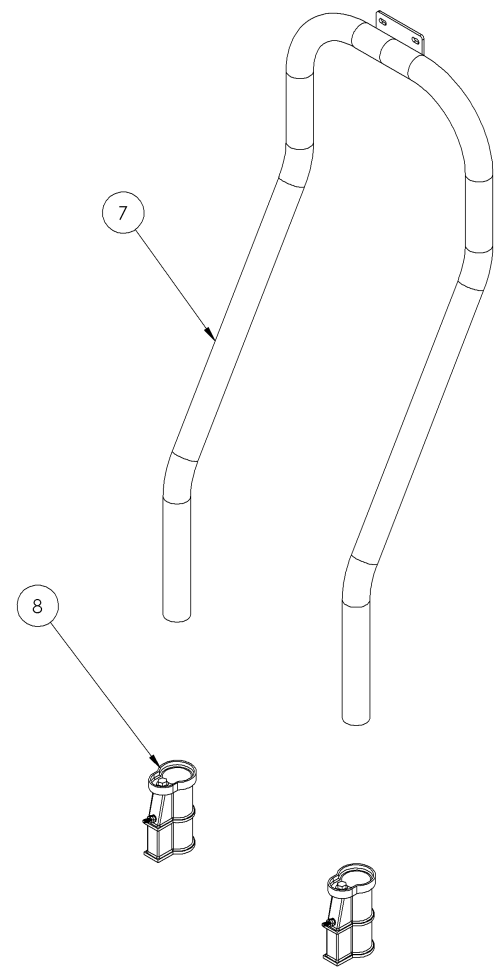

Fig. 2
1. Insert the vertical post (7) into the installed anchors (8), as shown in **FIGURE 2**. To make assembly easier, the basketball game can be assembled facing away from the pool and will be turned around once assembly is complete. (For anchor installation information see 06-252)